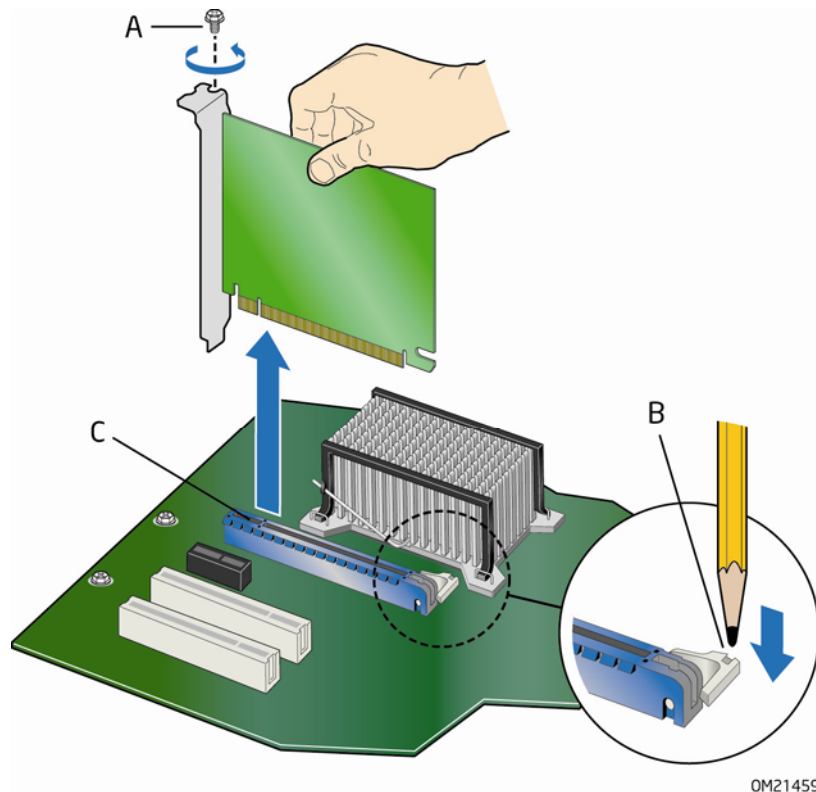

Figure 18. Removing a PCI Express x16 Card
2. Remove the screw (Figure 18, A) that secures the card's metal bracket to the chassis back panel.
3. Push the card ejector lever down using the tip of a pencil or similar tool in the notch (Figure 18, B). This will release the card from the connector (Figure 18, C).